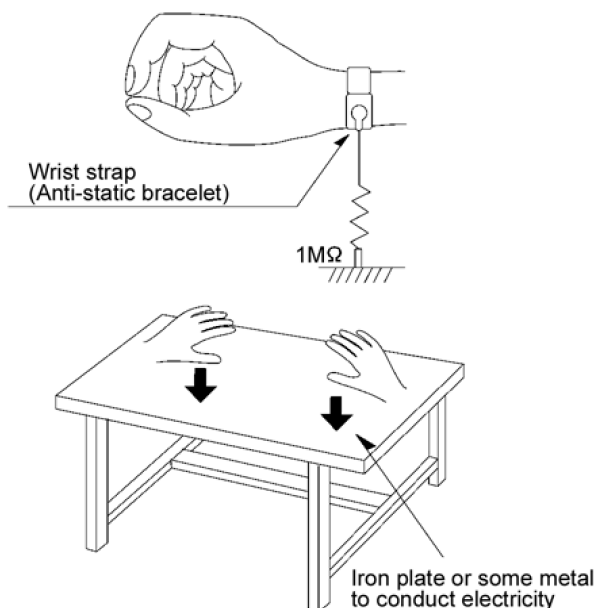

Fig 6.2
1. Human body grounding (Fig 6.2)
2. Work table grounding (Fig 6.2)